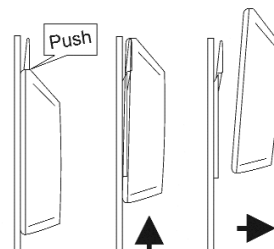

Fig. 4
4. To release the display press lightly on the bracket tab and slide the display upwards (Fig.4).